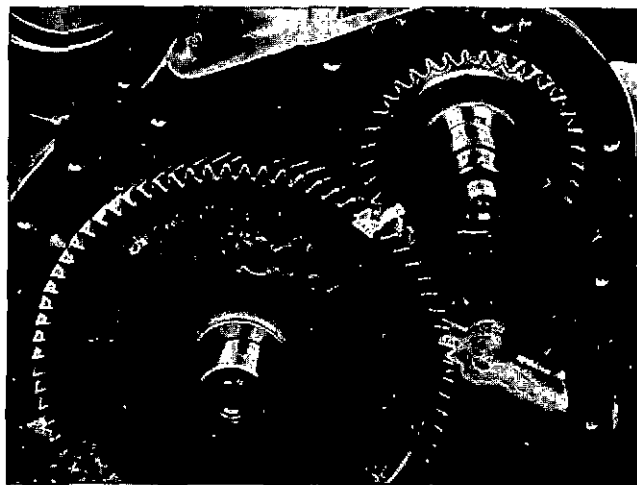

Fig. 14-35 (N114262). Align The Timing Marks.
3. Install the accessory drive assembly. Make sure that the timing marks on the accessory drive gear align with the timing marks on the camshaft, Fig. 14-35.